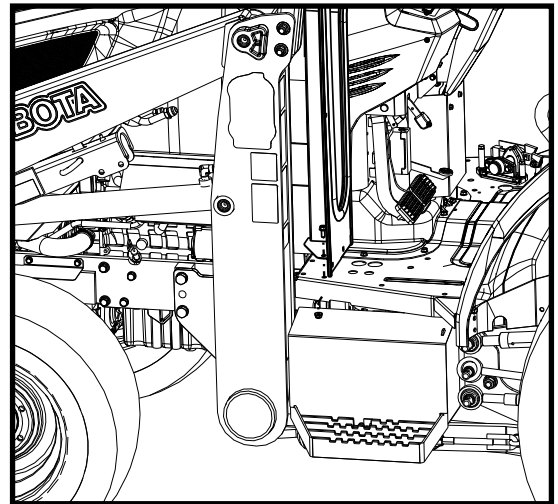

Figure 2.2: Fasten Cowl to Floor Board
- 2.2 Fasten the bottom cowl flanges to the vehicle floor board (see Figure 2.2). Repeat on opposite side. Leave bolts loose.